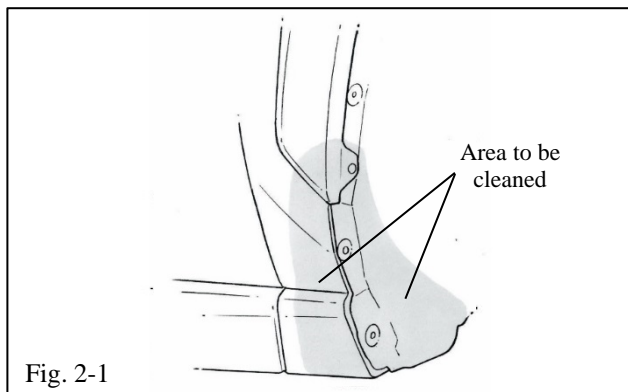

Fig. 2-1
- STOP** (a) Clean and degrease the front body panel where the mudguard is to be located with a clean cloth and soap/water mixture (Fig. 2-1).